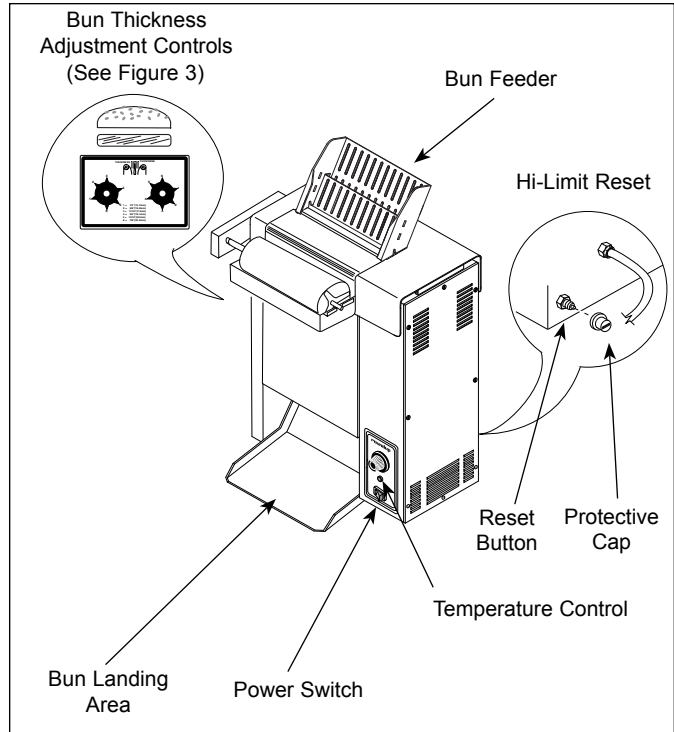

Figure 2. Toaster Controls
2. Turn the unit on (Figure 2).
3. Turn the Temperature Control (Figure 2) to 10. Allow the unit to warm up for 30 minutes before proceeding.
4. Slide buns across the rotating Butter Wheel with the cut face down and drop buns into the Bun Feeder (Figure 2). Cut sides of heel and crown must face each other and slide against the Release Sheet.
5. Toasted product will drop into the Bun Landing Area (Figure 2).
A Hi-Limit Control turns off electrical power to the Platen if it overheats. To reset this control, allow 10-15 minutes for the unit to cool down. Then remove the protective cap and press the Reset Button located at the rear of the unit (Figure 2).